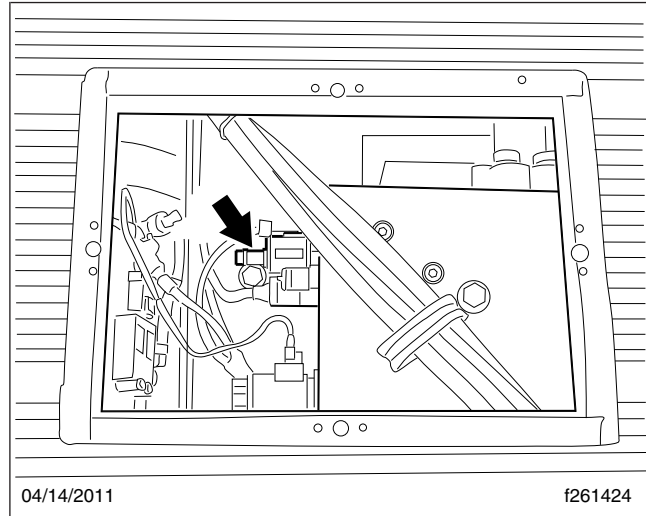
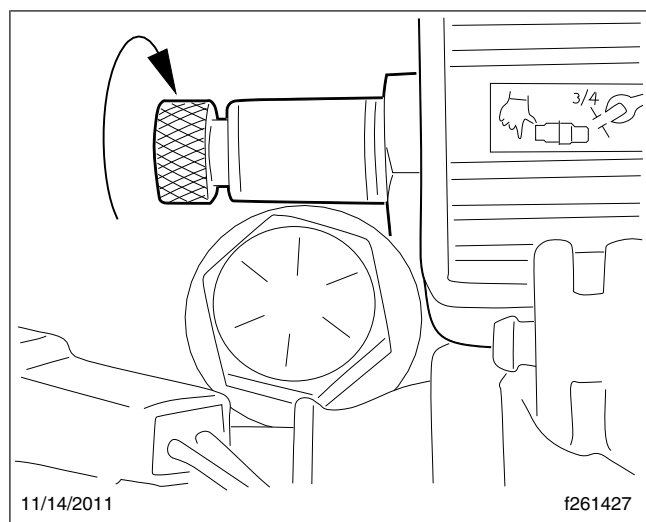

Fig. 16.20, Manual Bleed-Down Valve Location
Fig. 16.21, Opening the Manual Bleed-Down Valve
4. To open the manual bleed-down valve, push in on the knurled knob, then turn the knob counter-clockwise and release it. See Fig. 16.20 and Fig. 16.21.